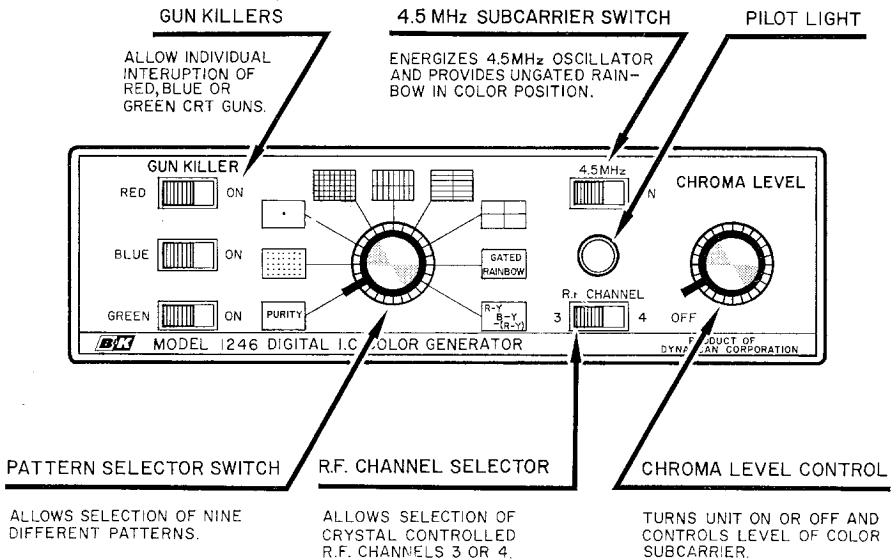

Figure 1.
A. CONTROLS AND FUNCTIONS (Refer to Fig. 1)